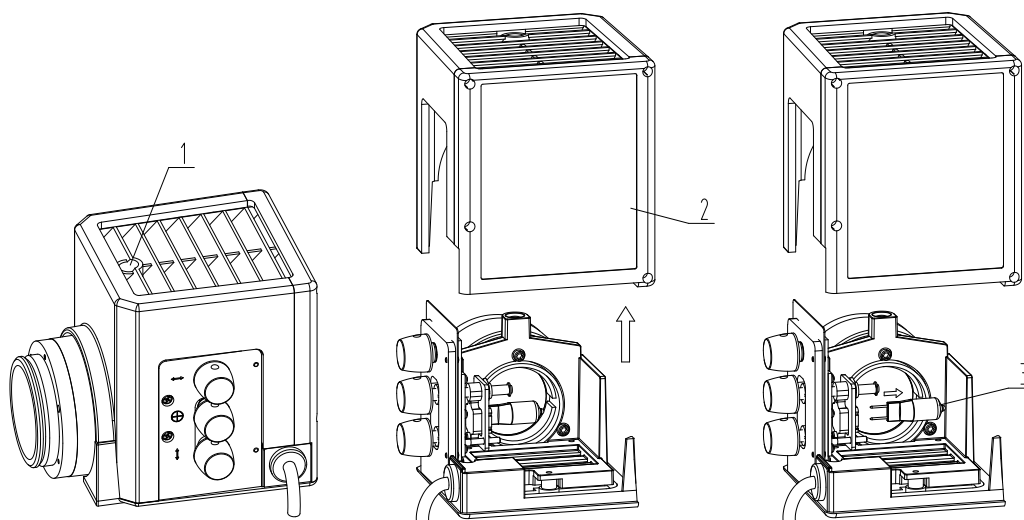

Figure-1 Replace Bulb
2. Before replacing the lamp, first turn off power switch at off position **O**, and unplug it in case of electric shock and burn. The power supply must be cut off before bulb replacement .If microscope is in use or after use, the bulb and lamp house must be cooled off completely before proceeding, please see **Figure-1**, Loosening screw ①, pulling out lamp shade②, and replace bad bulb with required bulb ③.